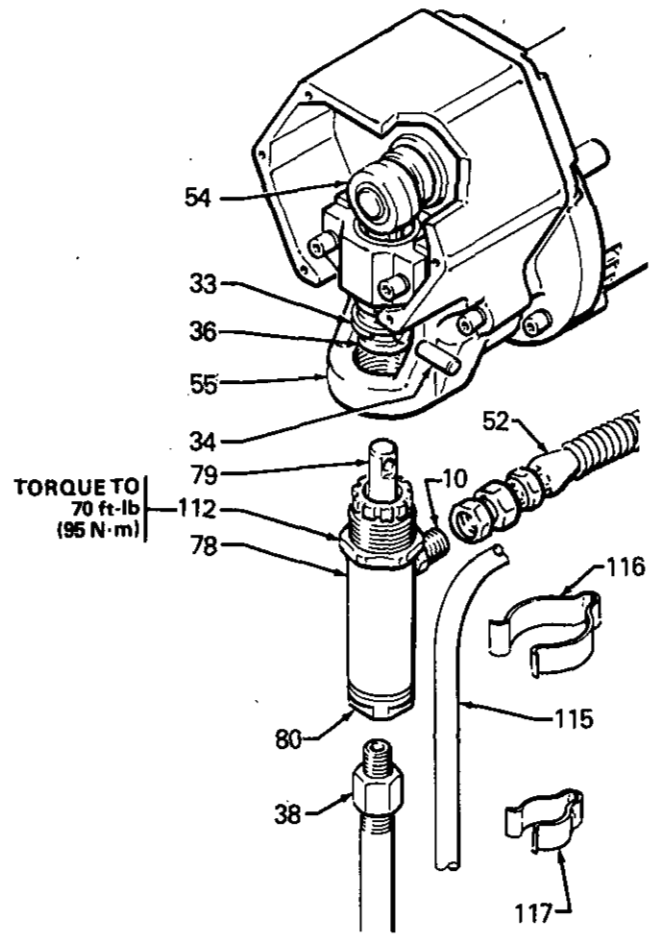
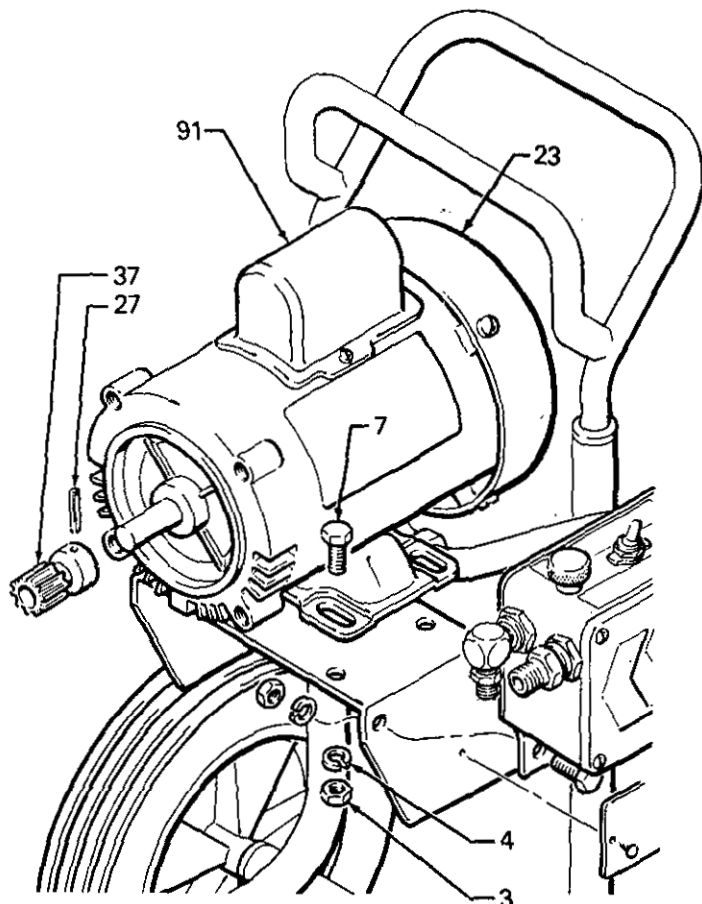
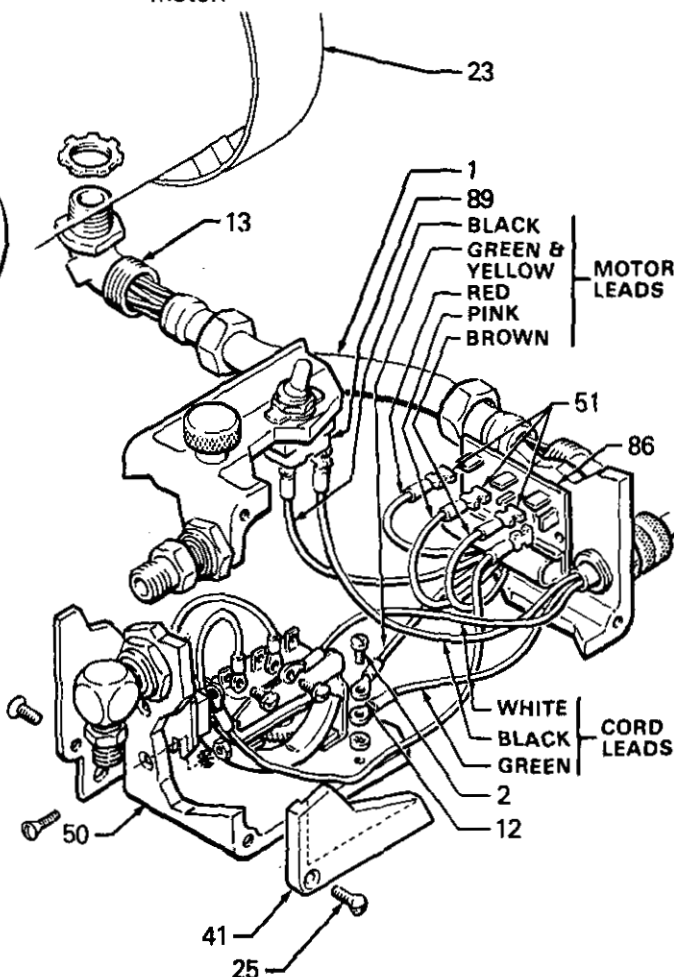

Fig 14
Fig 20
Fig 21
Unscrew adapter (38) from pump. See Fig 14. Use a wrench on the pump intake valve (80) to keep it from loosening.
Unscrew the hose (52) from male connector (10). See Fig 14.
Remove two screws and the cover of capacitor (91). See Fig 20. Remove flag connectors from old capacitor. Connect flag connectors of new capacitor and replace cover.
Disconnect hose (52) from connector (10). See Fig 14. Remove drive assembly as described above. You can leave pump, connecting rod and bearing assembled to drive assembly. Drive out pin (27) and remove gear (37). See Fig 20. Remove screws (25) and cover (41) from pressure control (50). See Fig 21. Disconnect red, pink and brown motor leads from circuit board (86). Disconnect green and yellow motor lead from grounding screw (2) and black motor lead from toggle switch (89).
Unscrew nuts on both ends of conduit (1) from connectors. Remove screws (7), nuts (3) and lockwashers (4). See Fig 20. Remove motor from frame while carefully guiding wires through connector in control box. Remove conduit (1) from wires.
**NOTE:** Terminals (12 and 51) are not included with a new motor (23). Order these separately and crimp to motor leads as shown in Fig 21. Circuit board (86) is included with a new motor.